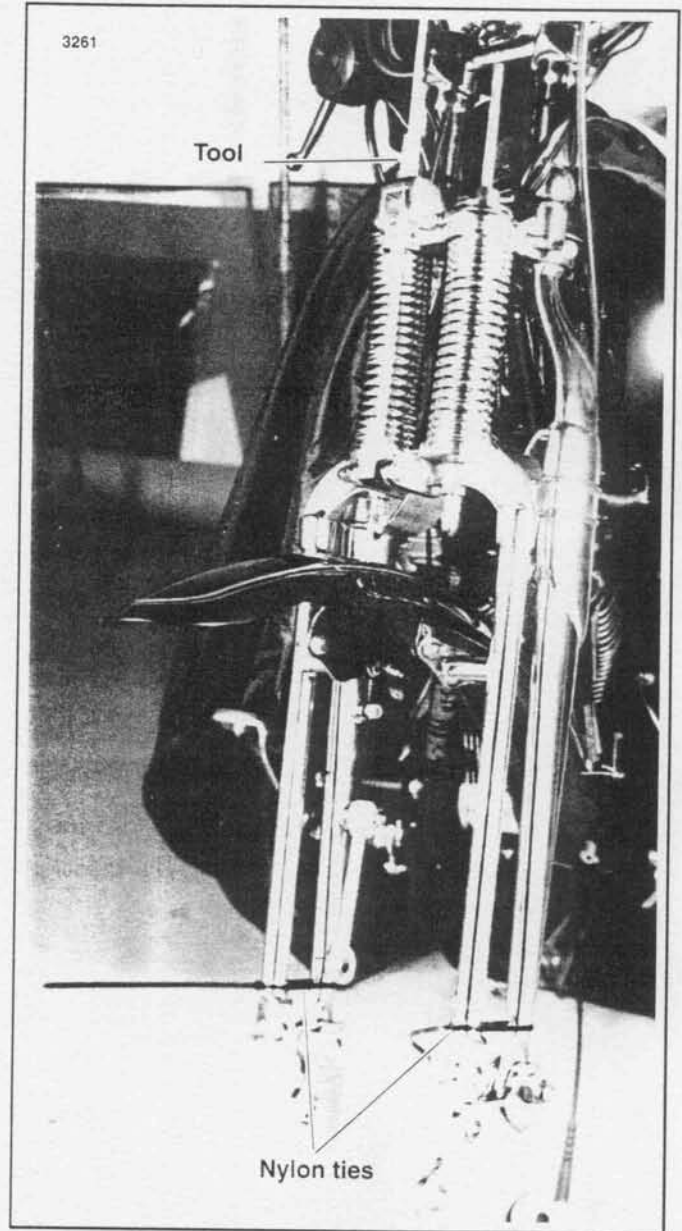

Figure 2-68. Tool Use
1. See Figure 2-68. Slide the rod, without the long hex nut and washers, into the hole above the upper shock eye mount.
If the spring fork legs are not held in place, next to the rigid fork legs, the spring pressure will snap them forward with great force, which could cause personal injury. See Figure 2-68. Use nylon cable ties around the rigid and spring fork legs to hold them in place.
4. See Figure 2-68. Use cable ties to tie wrap the fork legs in place as shown.
5. See Figure 2-68. Use the tool and compress the compression (lower) springs until they bottom on the travel bumpers. This will release the pressure on the rebound (upper) springs.
4. Use cable ties to tie wrap the fork legs in place as shown in Figure 2-68.